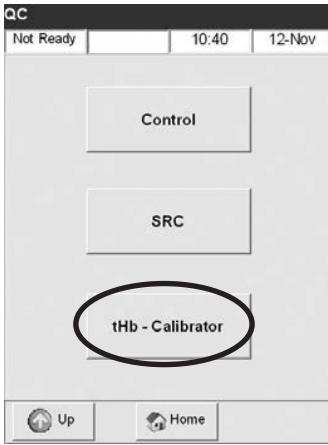

Fig. 6-13 Select tHb-Calibrator
4. Press **<tHb-Calibrator>** (Fig. 6-13).